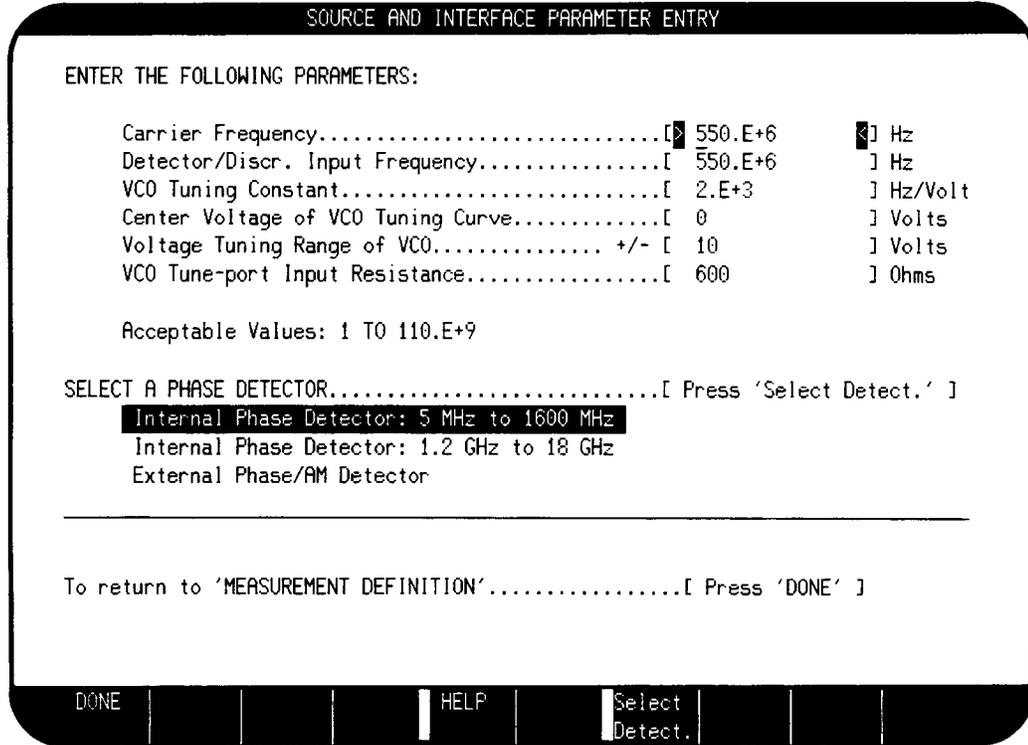

Figure 3-8. Source and Interface Parameter Entry Menu
7. On the HP 3048A press the **Instr. Params** softkey to obtain the Source and Interface Parameter Entry menu. Set the parameters and phase detector as shown in figure 3-8. When done, press the **DONE** softkey.